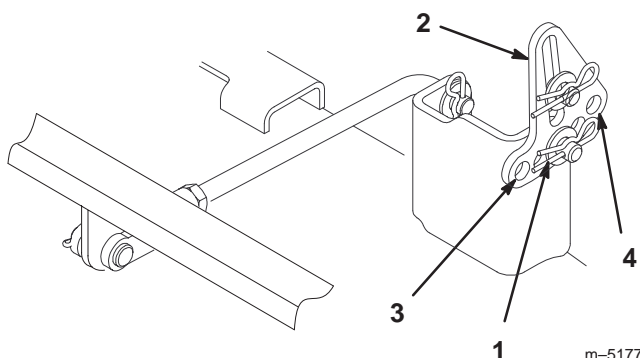

Figure 35
5. Remove the hairpin cotter and washer from the leveling bracket (Fig. 35). To level the blade(s), reposition the leveling bracket(s) in a different hole and install the washer and hairpin cotter. (Fig. 35). A front hole lowers the blade height and a rear hole raises its height. Adjust both sides as required.